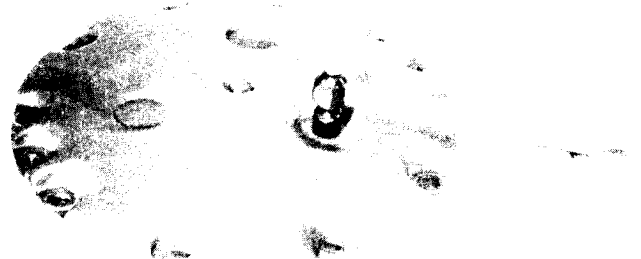

FIG. 117
4. Turn planet spider over, apply light coat of Permatex No. 2 to sealing surfaces of expansion plugs, and position planet expansion plug in seat on spider. Tap sharply on center of plug to retain it in seat (Fig. 117). Repeat procedure to install remaining two planet pinions.